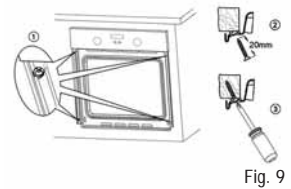

Fig. 9
- Secure the oven into the unit using the screws provided (as shown in Fig. 9).